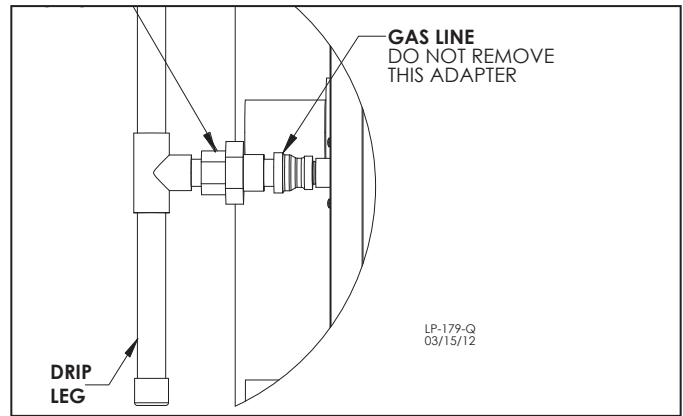

Figure 28 - Gas Connection
Do not remove the adaptor in Figure 28! It is mandatory that this fitting is used for connection to a field fabricated drip leg per the National Fuel Gas Code. You must ensure that the entire gas line to the connection at the appliance is no smaller than 3/4".
5. The National Fuel Gas Code (NFPA 54) requires that a sediment trap (drip leg) be installed in the gas line on appliances not so equipped. The drip leg must be accessible, a minimum of 3" in length, and not subject to freezing conditions. See Figure 28.